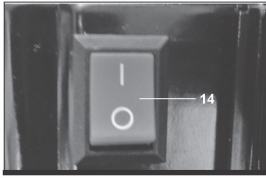

Fig.M1
1. Disengage the chain brake (6) by pull the hand guard.
2. Move Ignition switch to the "I" position. (Fig. M1)